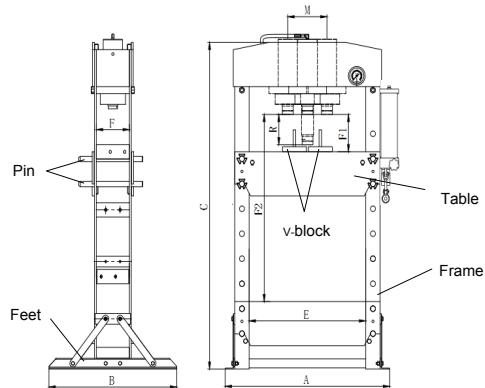

Fig.02
- The feet are fixed to the chassis using the screws provided, and the tables to the two B axes of Fig.02 which have previously been positioned on the outlets of the columns according to the chosen work height Fig.02. Attach the base section and support to left and right connecting plate using bolt, washer, lock washer and nut.
- During moving the machine, please make sure to use the proper lifting equipment and follow the instructions as shows Fig.02.
**WARNING** Ensure table at proper position and lock the table by pins firmly. Place the V-block on table, Fig.02, then insert workpiece onto the V-block.